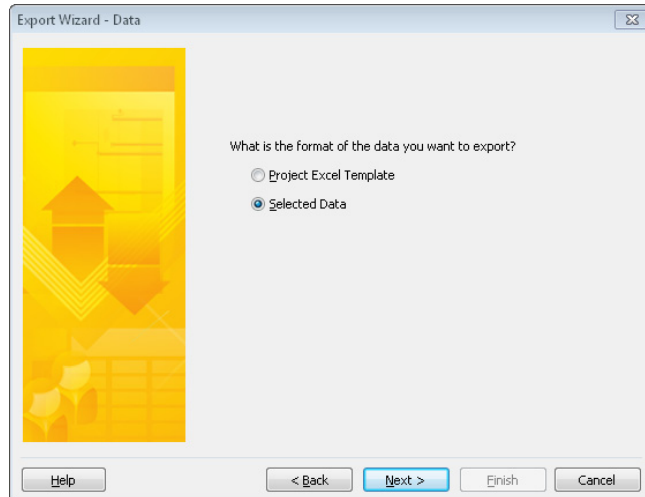

FIGURE 7-8 On the Export Wizard - Data page, the Selected Data option lets you specify the fields you want Project to export.
4. On the Export Wizard - Data page, keep the Selected Data option selected, as shown in Figure 7-8, and click Next.